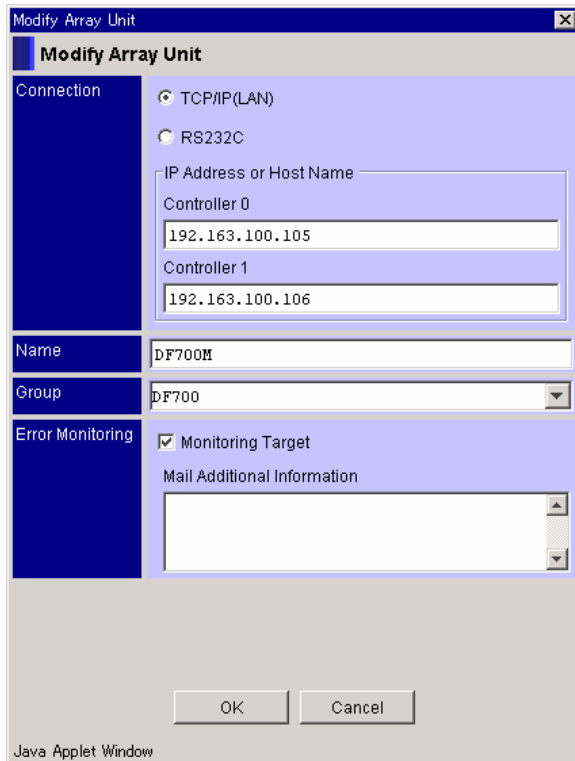

Figure 4.15 Modify Array Unit
2. Change the registration contents and click **OK**. See Figure 4.15.